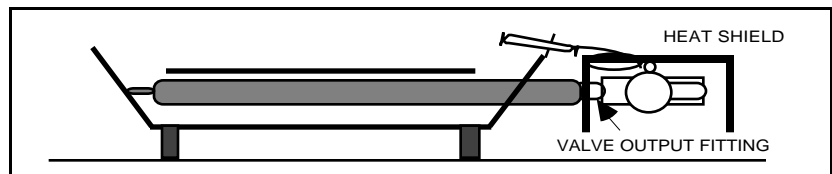

Figure 9
1. With the notched end over the **VALVE OUTPUT FITTING**, place the **HEAT SHIELD** over the **VALVE** as shown in Figure 9.